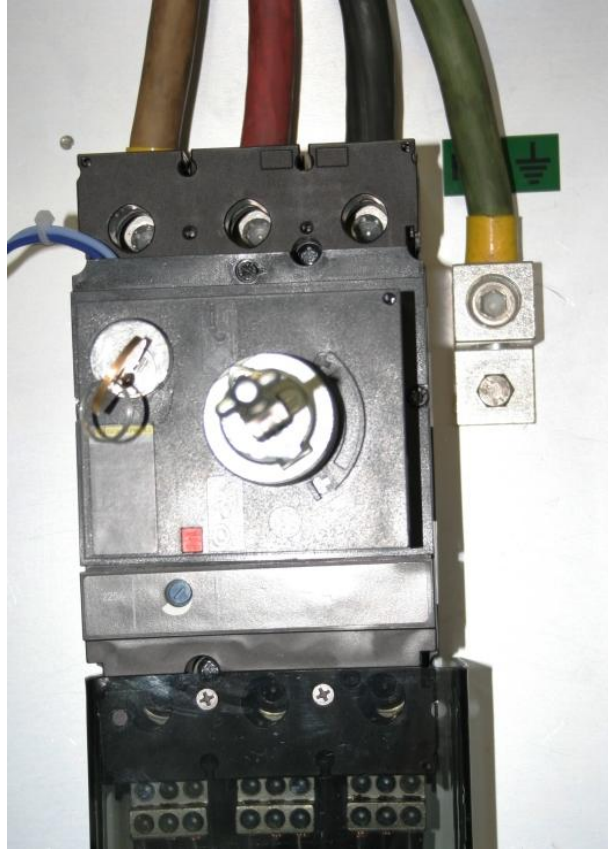

Figure 3-1:
- Connect the supply grounding wire to the grounding lug and the other three lines into the top of the circuit breaker connections (L1, L2, and L3) as shown in Figure 3-1 (torque wire terminal connections to 120 in/lb).